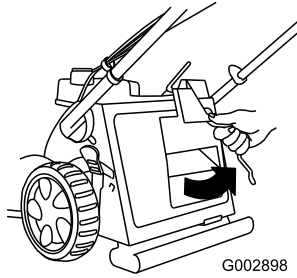

Figure 26
1. Rotate the latch rod to the right and remove the mulch plug (Figure 26).